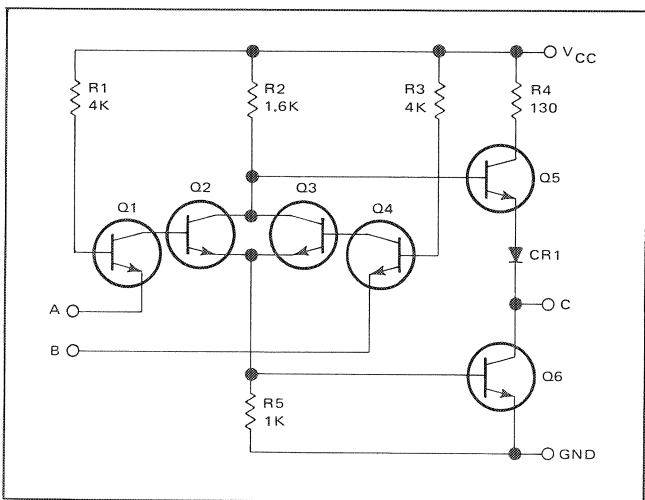

Figure 5.19 - Basic TTL Nor Gate
5.99 A majority of the integrated circuits used in the 8000B counters are TTL type integrated circuits. TTL circuits operate up to ≈ 15 MHz. The basic Nor function is shown in figure 5.19. Logic levels are: